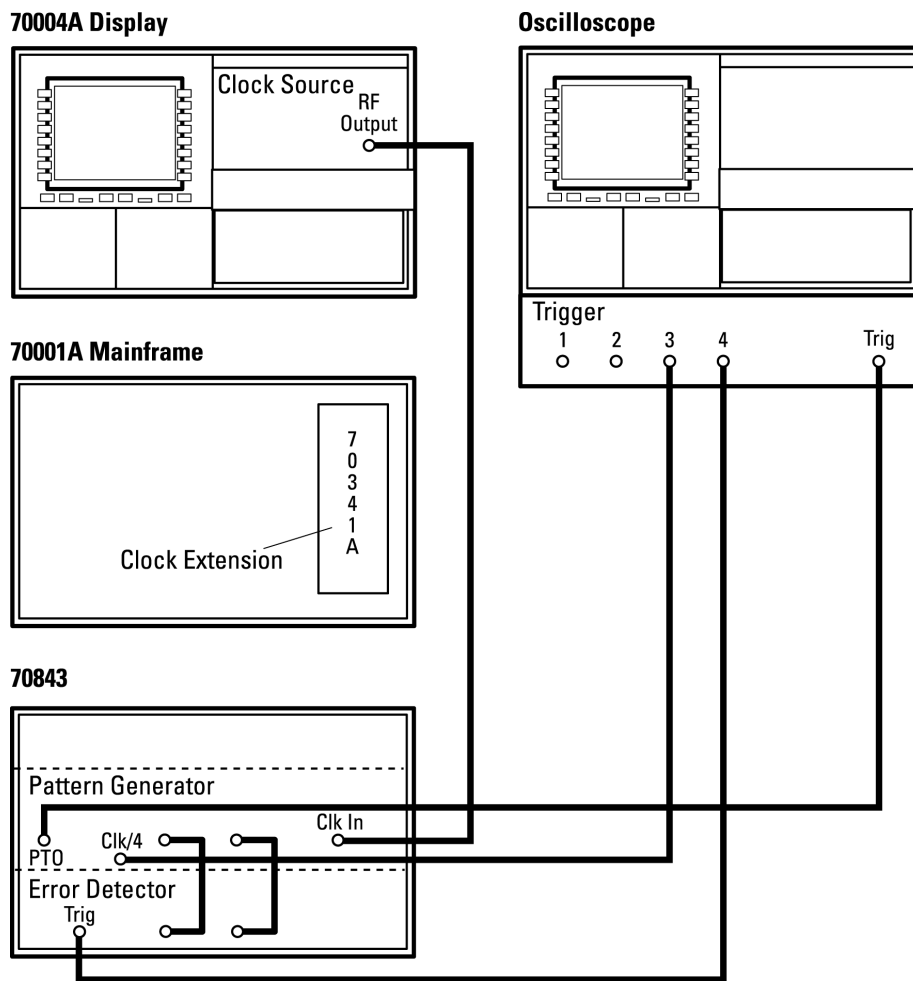

Figure 11-15
1. With the equipment set up as in Figure 11-15, select a fixed error rate of 1E-3.
**Configure the equipment as in Figure 11-15.**
Configure the equipment as in Figure 11-15.